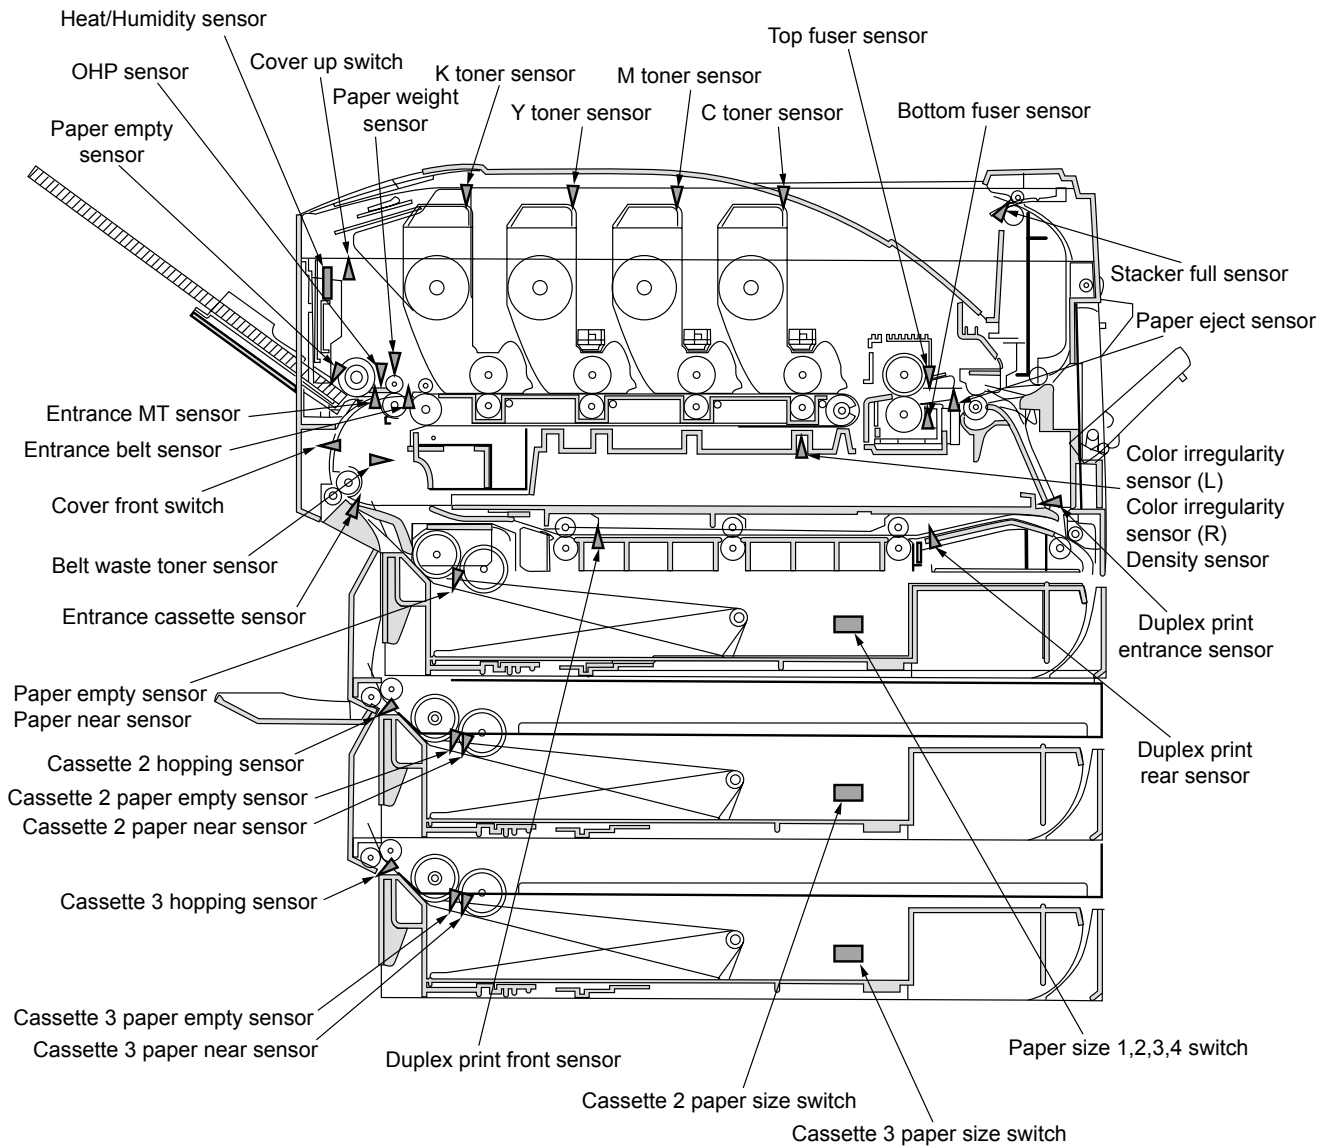

Figure 3-1 Switch Sensor Position
3. The test starts by pressing the ③ key. The SWITCH SCAN number begins to blink and the number of the corresponding unit (1-4) is displayed along with the current status. Manipulate each unit (Fig 3-1). The items are displayed in the LCD that corresponds to each item. (The display differs for each sensor. See Table 3-1 for details.)
4. The SWITCH SCAN number reappears in the display status (blinking ceased) by pressing the ⑦ key.
6. Press the ④ key to end the test. (Status returns to that described in 1.)